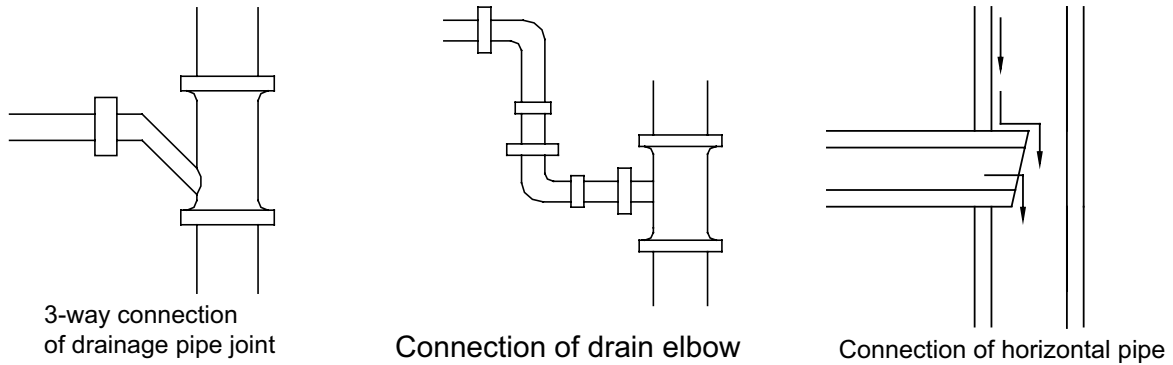

Figure 3-1-55 Figure 3-1-56 Figure 3-1-57
- (8). Connection of drainage branch pipe to the standpipe or horizontal pipe of drainage main pipe
- (9). The horizontal pipe cannot be connected to the vertical pipe at a same height. It can be connected in a manner as shown below:
- NO.1: Attach the 3-way connection of the drainage pipe joint as shown in Figure 3-1-55.